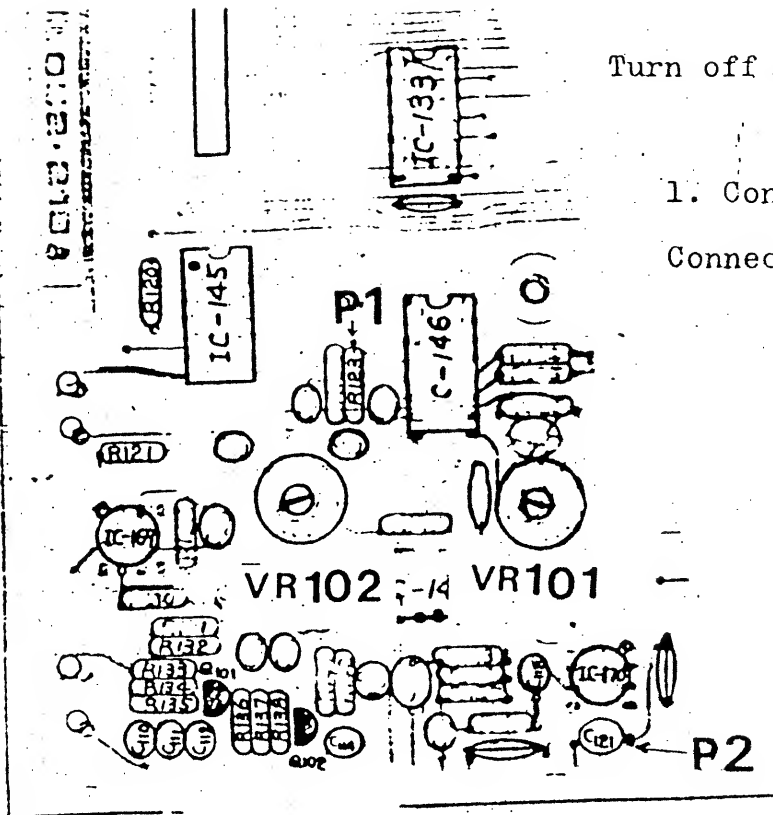

Fig. 2 CPU Board
1. Connect oscilloscope lead to F1 (Fig.2)